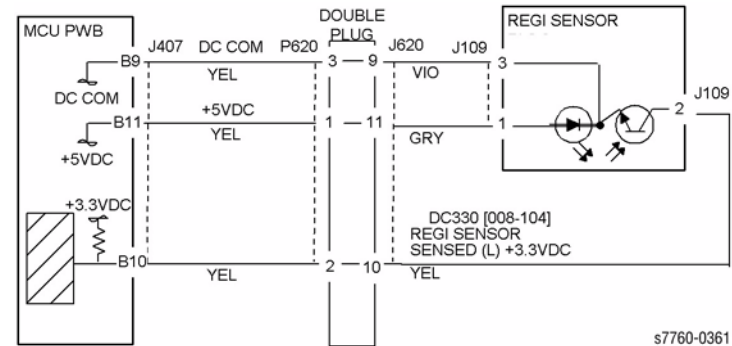
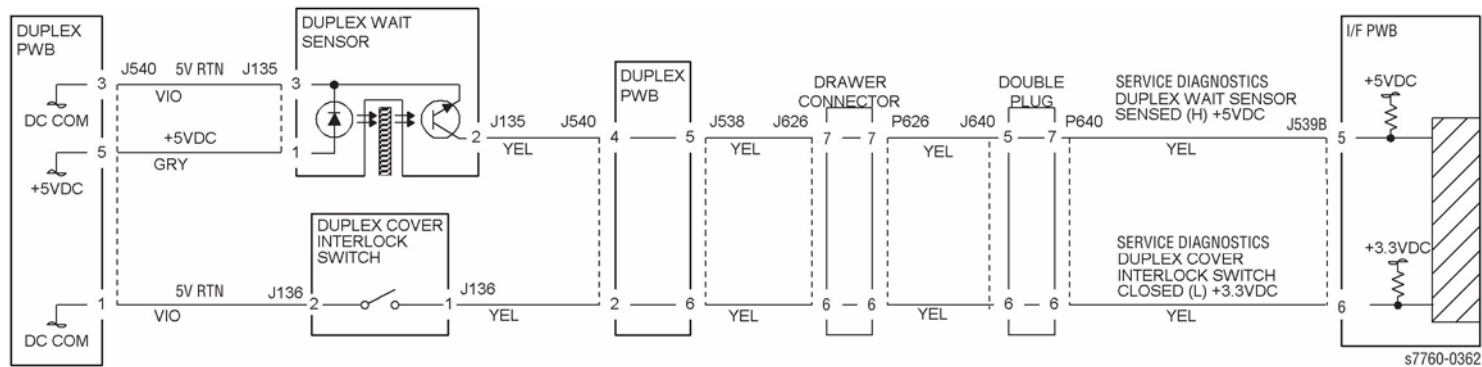
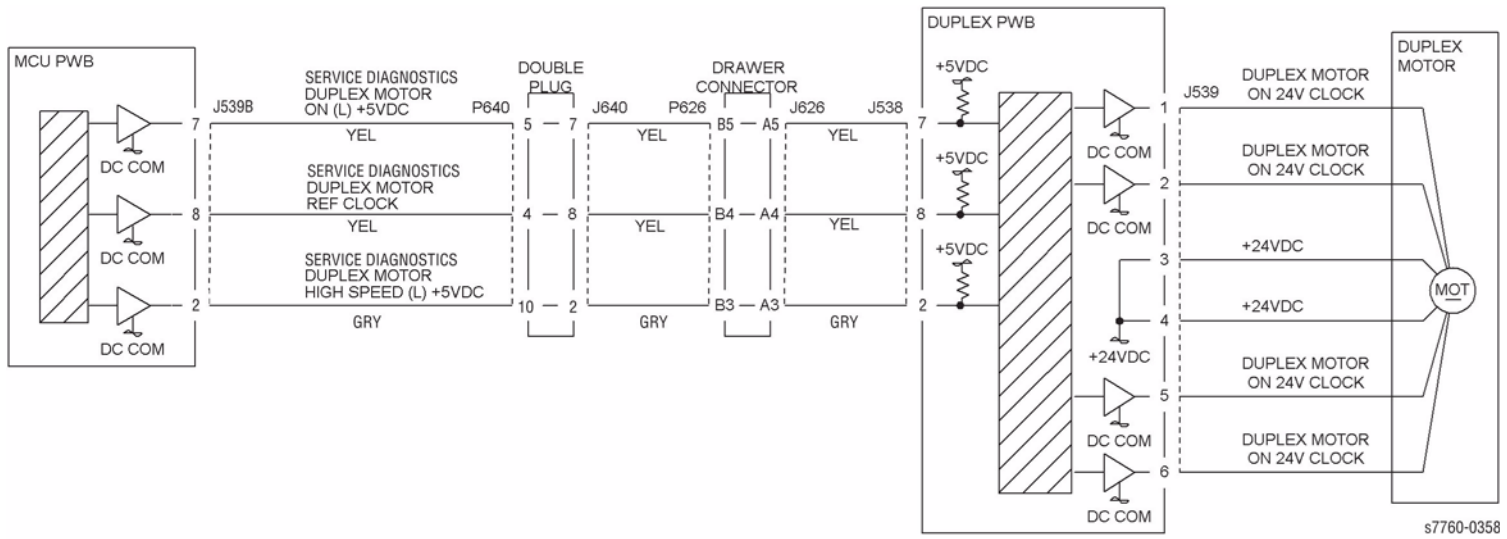

Figure 1 008-181 Registration Sensor
Figure 2 008-181 Duplex Wait Sensor
Figure 3 008-181 Duplex Motor
- Ensure that the connectors shown in circuit diagrams (Figure 1, Figure 2, Figure 3) are securely connected and that the wires are not damaged.